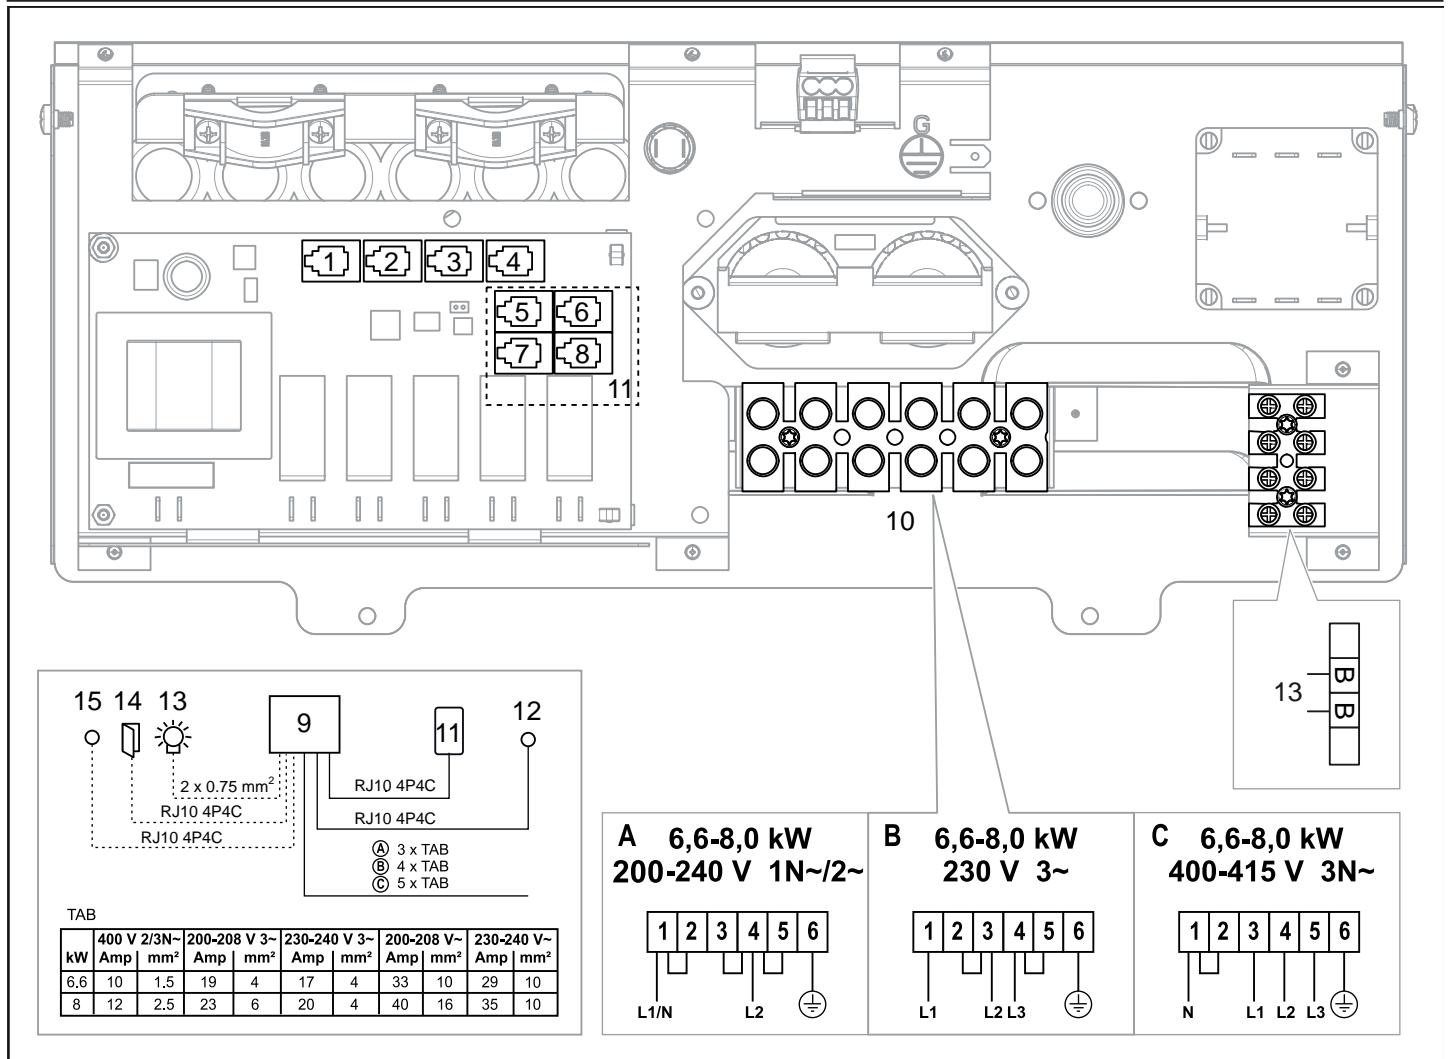

Figure 17: Wiring diagram
5. Connect the sensor cable (6) to the NTC contact on the circuit board (position 1) (5) (see the Connection/wiring diagram section) according to the wiring diagram (see the Connection/wiring diagram section, page 11).
6. Connect the light cable (if relevant) (7), see Figure 9, to the terminal (8) according to the wiring diagram Figure 17.
Contact Tylö Customer Service before connecting to voltages or numbers of phases that are not listed in the wiring diagram Figure 17.